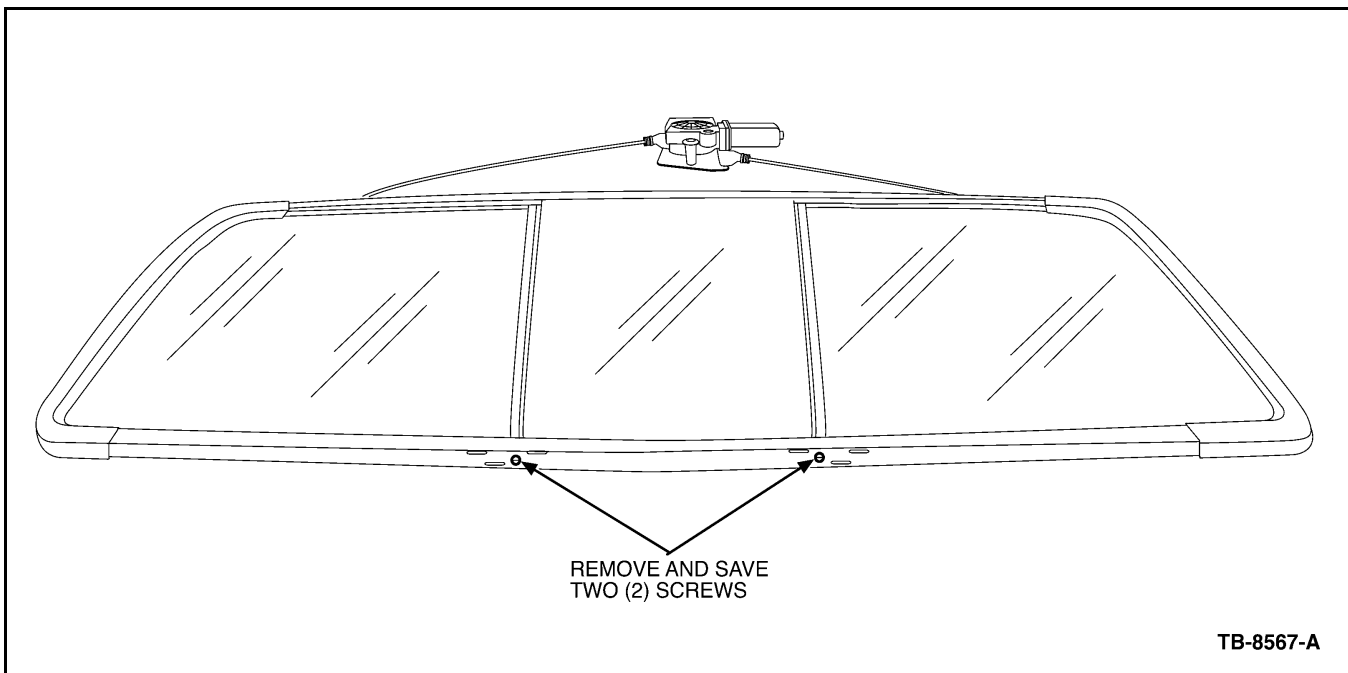

Figure 3 - Article 06-15-5
10. Locate two (2) screws in bottom of lower frame and remove them with a R1 square bit screw driver (Figure 3).